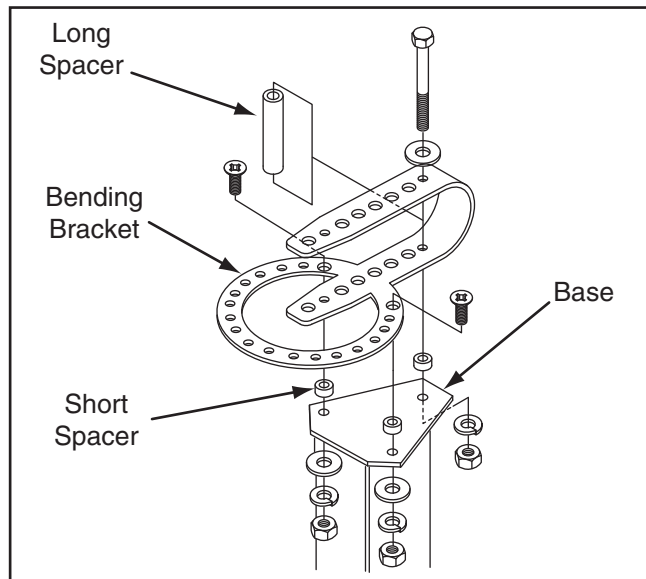

Figure 3. Attaching bending bracket to the base schematic.
1. Attach the bending bracket to the base using the fasteners and components shown in **Figure 3**.